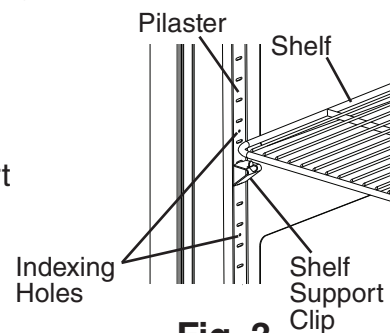

Fig. 3
1. Place the shelf support clips into the pilasters (4 shelf support clips per shelf). Indexing holes are provided on the pilasters in evenly spaced intervals to assist you in positioning the support clips at the same height. See Fig. 3.